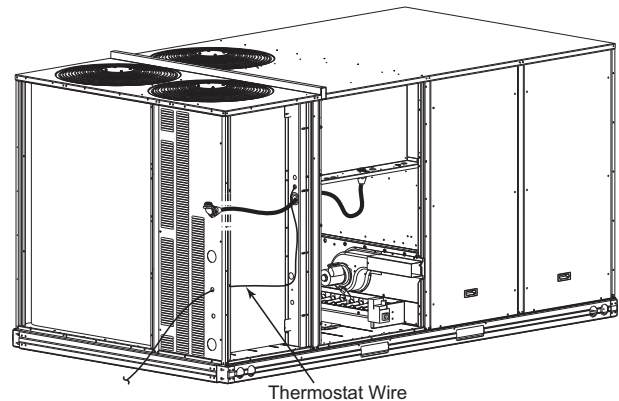

Fig. 39 — Thermostat Wire Routing
The 48FE**16 requires an external temperature control device. This device can be a thermostat (field-supplied) or a SystemVu™ controller (available as factory-installed option for use on a Carrier Comfort Network® or as a stand-alone control). All field added wire must comply with UL and local NEC standards. See “Unit without Thru-Base Connection Kit” on page 20 and use routing path shown in Fig. 39 to help with compliance as needed.
Pass the thermostat control wires through the bushing on the unit end panel. Route the wire through the snap-in wire tie and up to the web bushing near the control box. Route the wire through the bushing and into the bottom left side of the control box after removing one of the two knockouts in the corner of the box. Use a connector at the control box to protect the wire as it passes into the control box. Pull the wires over to the terminal strip at the upper left corner of the Unit Control Board (UCB). Use the connector at the control box and the wire tie to take up any slack in the thermostat wire to ensure that it will not be damaged by contact with the condenser coil. See Fig. 39.
1. Route the humidistat 2-conductor cable (field-supplied) through the bushing the unit's louvered end panel. See Fig. 39.